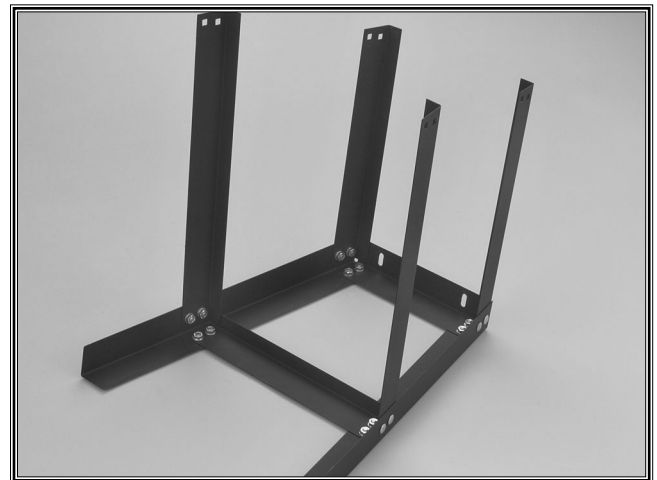

Figure 4. Installed braces.
2. Install the long upper and lower braces to the assembled legs as shown in **Figure 4**.